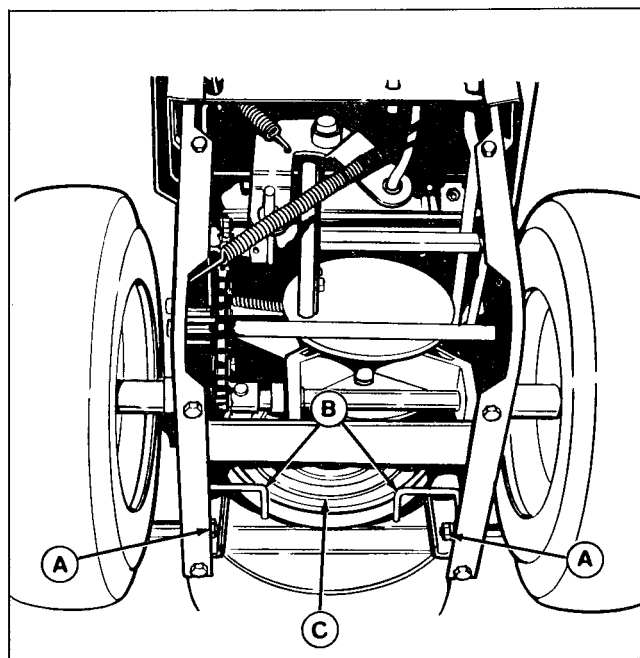

Figure 19. Auger Pulley Belt Stops (bottom cover shown removed)
- a. Slip the auger drive belt (D) from the idler pulley by pushing it away from the pulley and then toward the rear.
- c. Remove six capscrews from bottom cover to snowthrower frame. Loosen nuts (A, figure 19) on each side to release auger pulley belt stops (B). Move belt stops and remove belt from pulley (C).